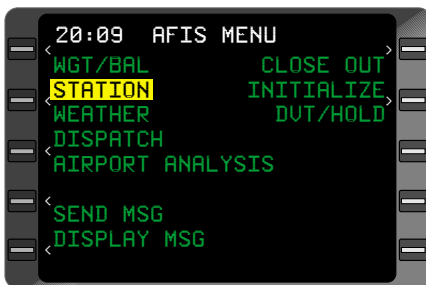

Figure 8-34
- Line Select Key - DEPRESS to position the cursor over **STATION**. See Figure 8-34.